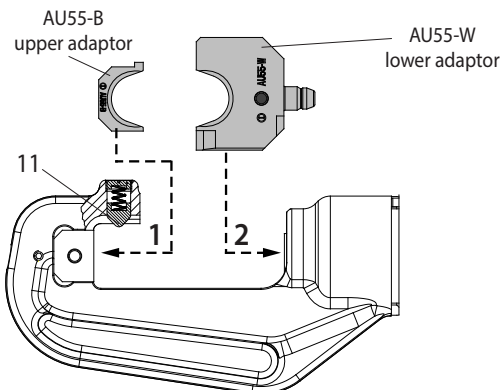

FIG. 2c
- Insert the upper adaptor AU55-B in the upper seat of the head (1); it will be held by pin (11) (see Fig. 2c).
- Insert the lower adaptor AU55-W into the seat of the ram (2) (see Fig. 2c).